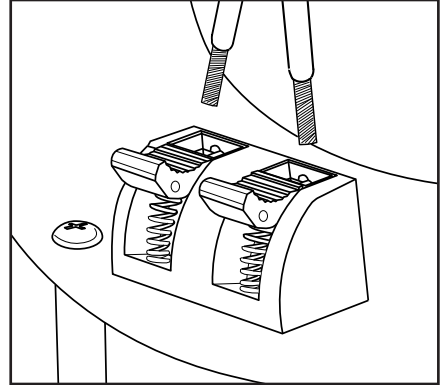

Figure 2. Loudspeaker connectors.
4. Connect the wires by pressing down on the tab on the input terminals. (see **Figure 2**)